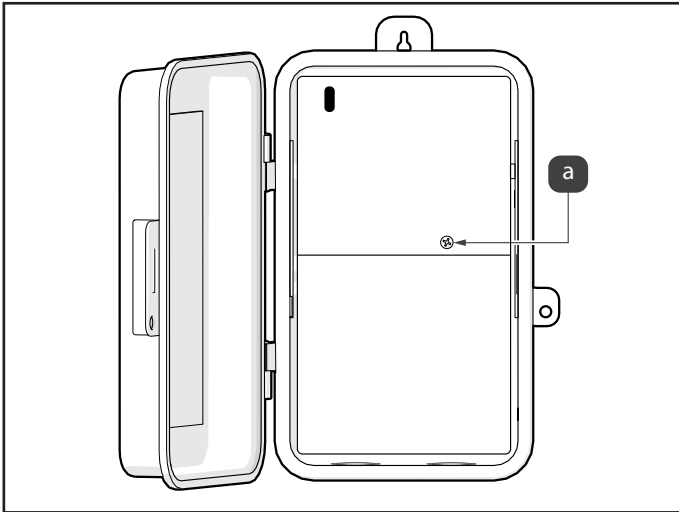

Figure 1. Remove Dead Front Screw
3. Open up the AquaLink TCX enclosure and remove the metal dead front. The dead front is held in place by one screw, see Figure 1 (a).